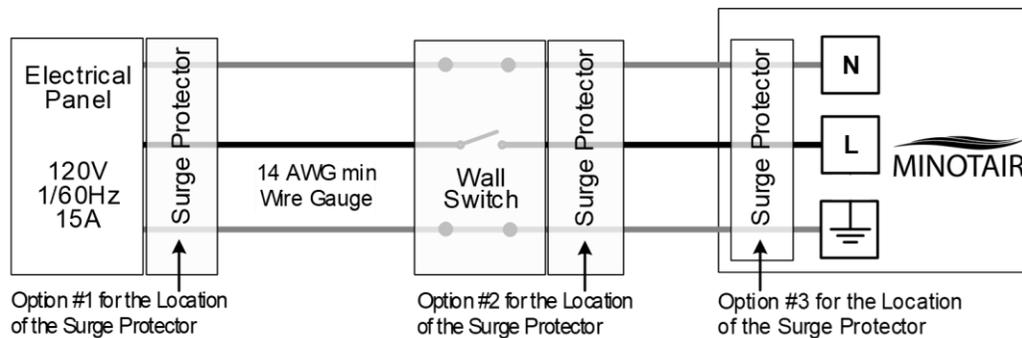

Figure 24 – Connecting the device.
- A dedicated circuit and nothing other than a dedicated 120 VAC/15A circuit must be used and the connection must be made by a qualified electrician. It is always advised to install a wall switch near the MINOTAIR that can be used to cut power during repair or maintenance activities (Figure 24).